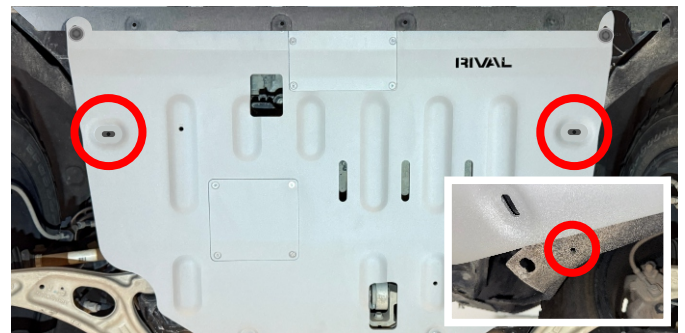

Fig. 4
4. Cut factory felt liners to install factory bolts on both sides of the vehicle as shown in fig. 4.